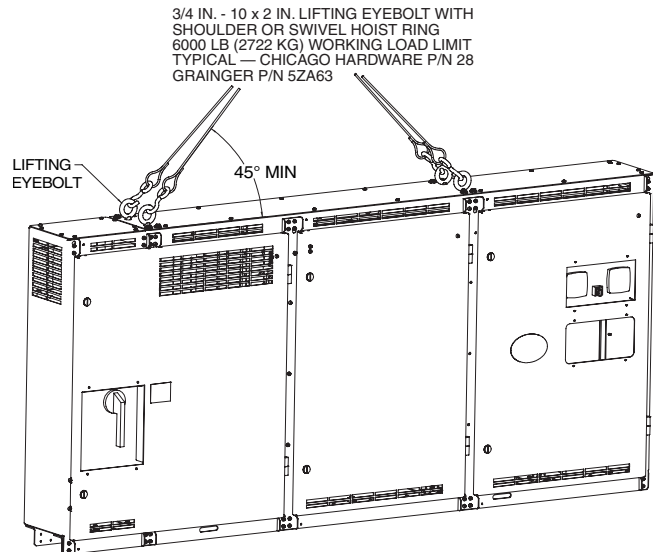

Fig. 21 — Control Center Lifting Points
1. Remove the rubber hole plugs in the top of the control center and fully thread in 4 eyebolts or swivel hoist rings (see Fig. 21). Lifting hardware must have $\frac{3}{4}$ in.-10 x 2 in. long threads and must have a working load limit of at least 6000 lb (2722 kg). Typical eyebolts are Chicago Hardware (size 28) or Grainger (P/N 5ZA63).
4. Rig the control center and remove the bolts that secure it to the VFD mounting brackets on the condenser (see Fig. 21).